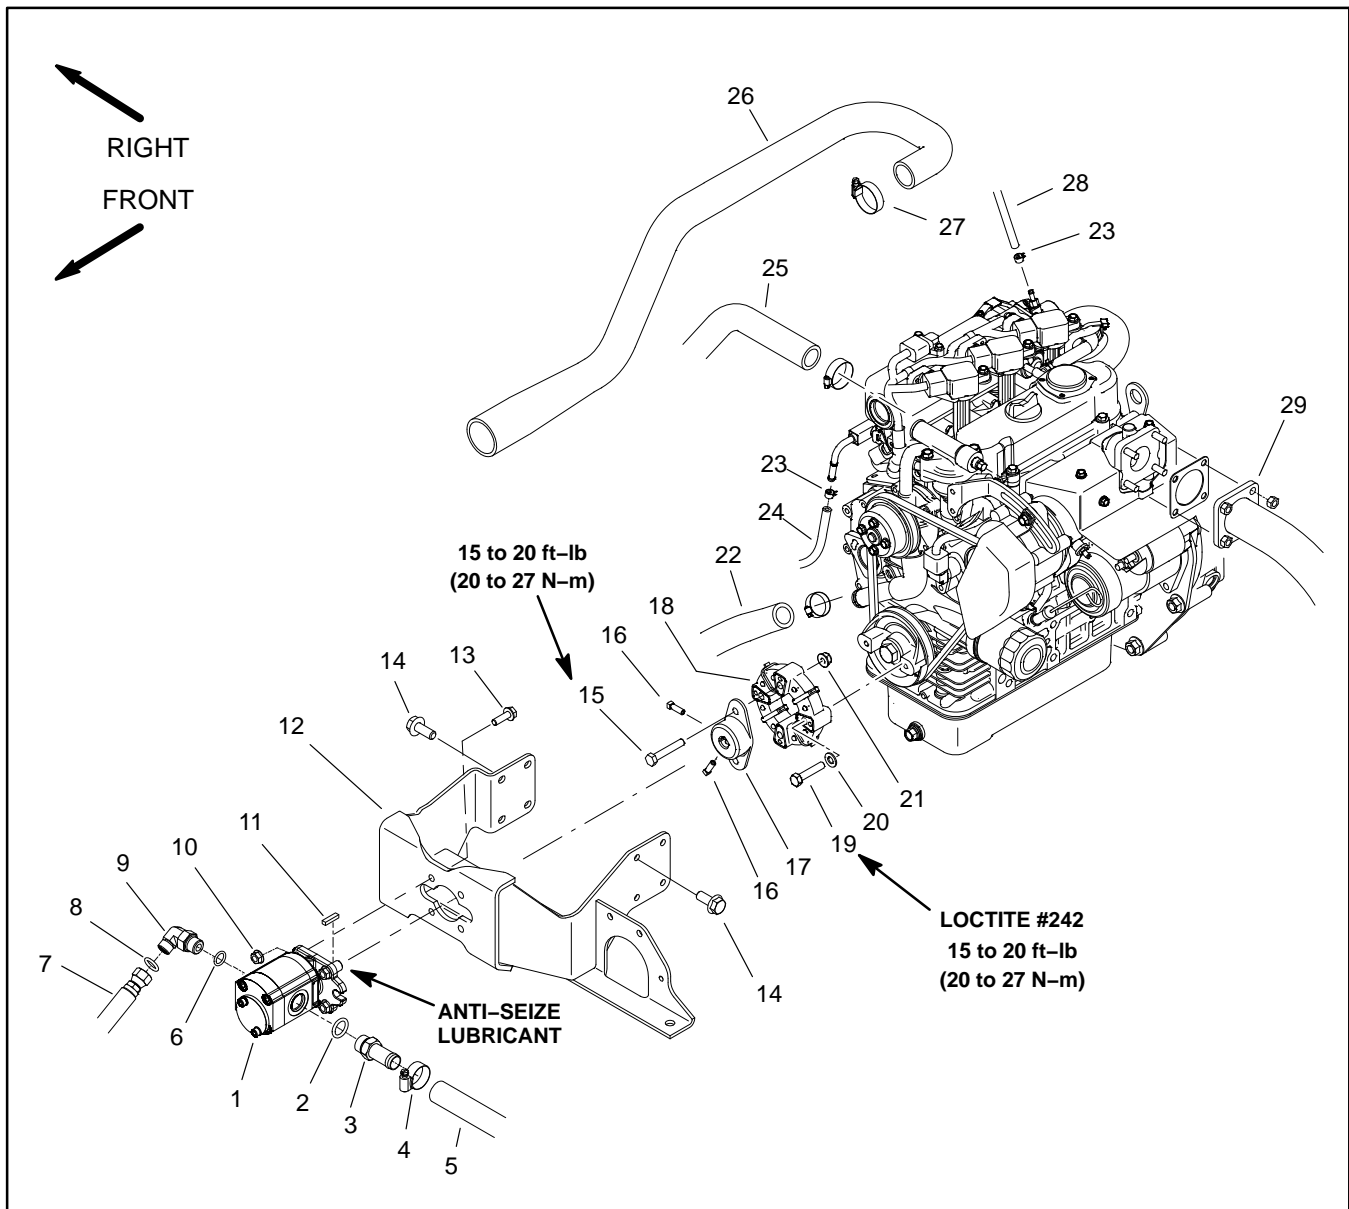

Figure 14
## Engine Removal (Fig. 14)
## Engine Installation (Fig. 14)
3. If engine mount was removed, secure mount to engine with seven (7) flange head screws. Do not install the screw used to secure the ground connections to the engine at this time.
5. Install two (2) dowel pins in bell housing bores (Fig. 14).